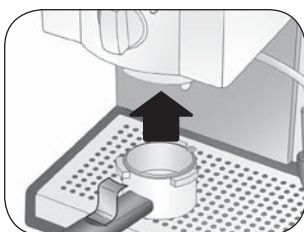

Fig. 9
- 3 Insert the filter holder into its seat (Fig 9).